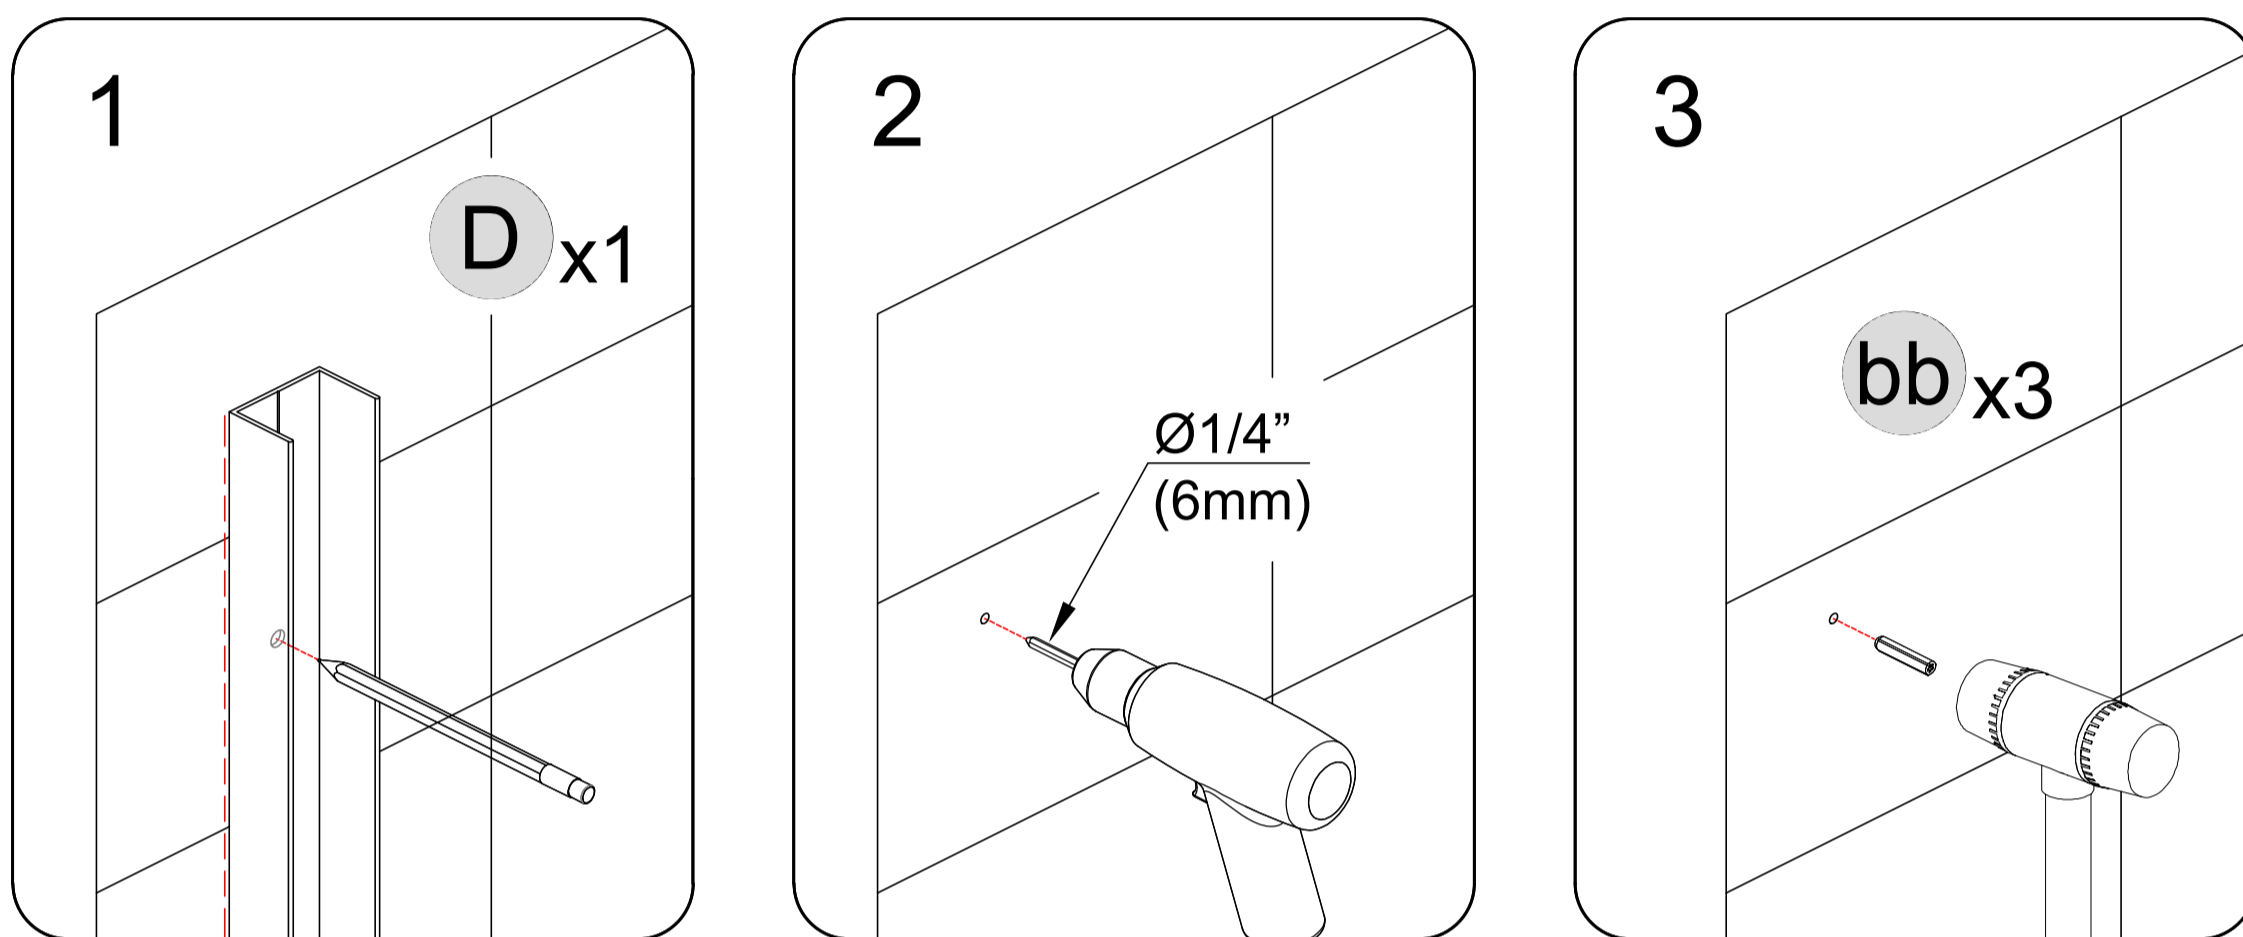

Fig 8
Move the frame assembly aside and remove the **Wall Jamb (D)**. Put **Wall Jamb (D)** back to the position marked in the previous step, and then mark the required hole. Drill the holes into the walls using a $\text{\O}1/4''$ (6mm) drill bit and insert the **Wall Anchors (bb)**. Repeat this process for the opposite wall jamb. (Fig 8)